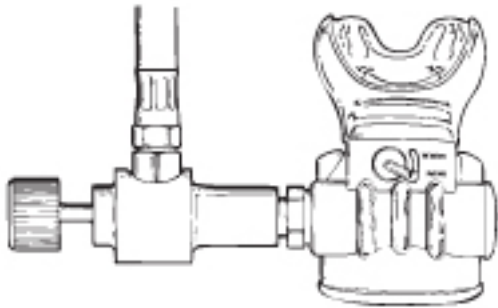

Figure 52 - In-line adjustment tool connection (RH model)
3. Pull back the knob of the tool to retract the adjusting stem, and mate the female threaded end of the tool onto the second stage inlet fitting. While holding the tool secure, turn the second stage clockwise until lightly snug (see Figure 52).